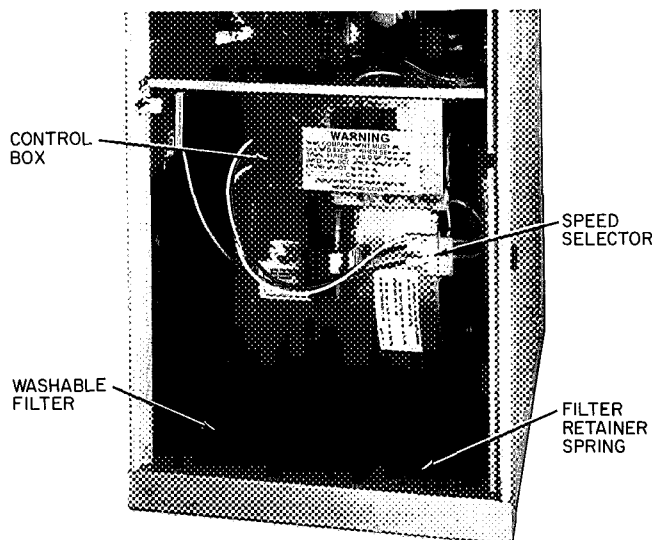

Fig. 7 — Filter Installed for Bottom Inlet
FILTER ARRANGEMENT — Filter is supplied in furnace blower compartment. For bottom inlet application, filter should be installed as shown in Fig. 7
To change motor speed taps, remove motor tap lead (Fig. 7, Table 3) and relocate it on desired terminal on plug-in terminal block/speed selector located on blower.
3. Remove electrical leads from numbered side of blower speed selector (Fig. 7, Table 3). Note location of wires to aid reassembly.